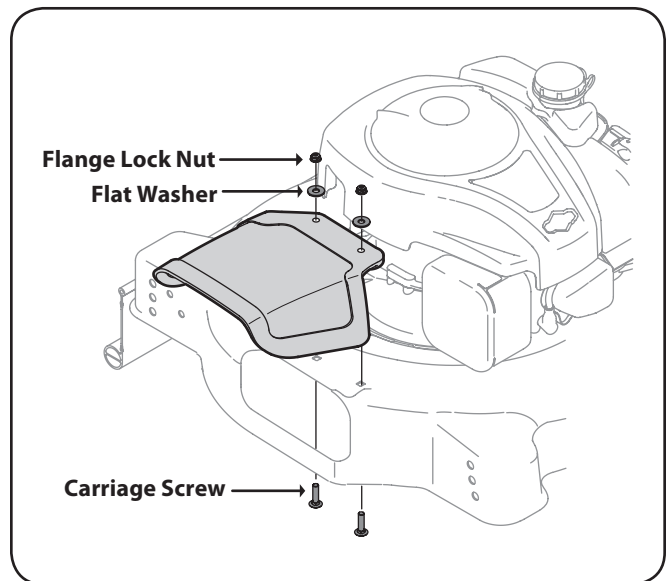

Figure 3-2
2. Insert 1.00" carriage screws up through the underside of the deck and through the chute deflector. See Figure 3-2.